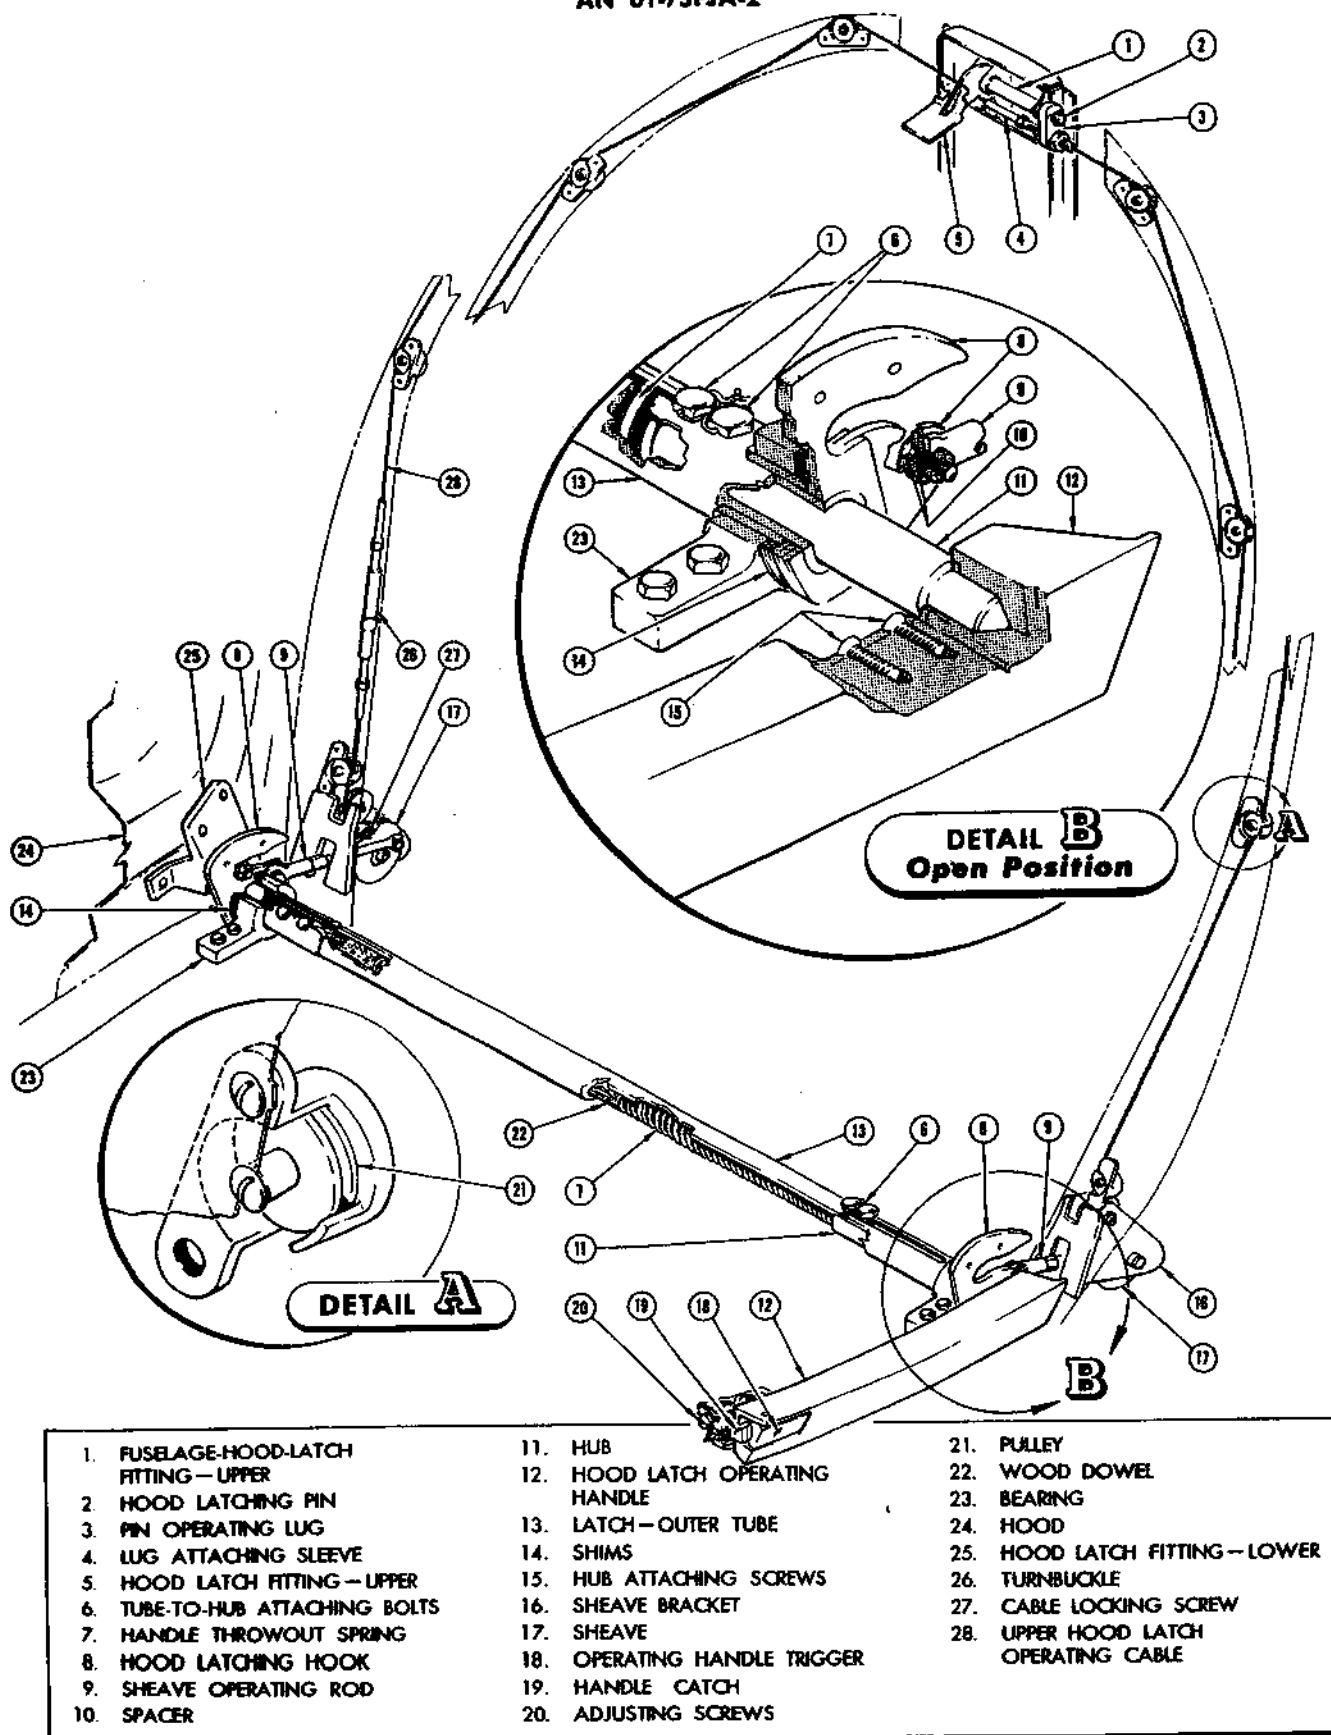

Figure 48 — Installation of Camera Compartment Hood Latch
8. Disconnect sheave operating rods (9) from latching hooks (8). (See figure 48.)
- b. Remove the hood hinge guard (20). This is a rubber guard, cemented in place, and will come loose with a steady pull.
- c. Remove the cloth tape (23) from the hinge line.
- e. Remove hinge pin clip (24), and pull out the hood hinge pin.
3. HOOD LATCH. (See figure 48.) — The camera hood is secured in the closed position by a latch mechanism on the aft end of the fuselage nose structure and the canted bulkhead of the fuselage mid section.
Pushing the trigger in forces catch (19, figure 48) out of its slot in the handle. When the catch releases the handle, the spring (7) in the latch tube forces the handle out of its recess. Two bolts through tube (13) into the handle hub limit the travel of the hub. Rotating the handle (12) counterclockwise moves tube (13) and latching hooks (8) in the same direction. This causes the hooks to disengage from the bolts in the hood latch lower fitting (25). As the hooks are displaced, sheaves (17) are rotated by rods (9) to operate the cable system that releases the upper latch. The cable extends around the aft circumference of the canted bulkhead through several guide pulleys (21), and is anchored at each end to the sheaves by a lock screw (27). The left sheave pulls the cable to disengage pin (2) from the upper latch.
(2) TO CLOSE THE HOOD. — Release the safety lock of the hold-open mechanism (paragraph 4b, following) and pull the hood closed. Rotate the handle clockwise until it is in the horizontal position. Then push the handle into its recess. Be sure the catch engages and holds the handle securely. The latching process is
(2) Remove screws holding the camera and radio junction boxes so that boxes may be moved aside.
(3) Remove bolts (6) and take off handle.
(4) Remove two bolts attaching latch tube (13) to the right hook.
(5) Remove both hooks and the latch tube. Note the number of shims (14) at each end, and record the number for reinstallation.
(6) Remove the vacuum pump bracket.
(7) Remove the oxygen cylinders. (See paragraph 21*i*, this section.)
(8) Release tension of the latch cable by loosening the turnbuckle on the right side of the cable.
(9) Disconnect the sheave operating rods at the hooks.
(10) Remove pulleys (21).
(11) Remove cable lock screws from sheave and remove the cable assembly.
c. INSTALLATION. — Reverse removal procedure. When attaching sheave operating rods to hood latching hooks, fit the fork of the rod over the tongue of the hook and line up the holes. Insert the spacers (10), one in each side of each fork. Then insert and tighten the bolts. (See B, figure 48.)